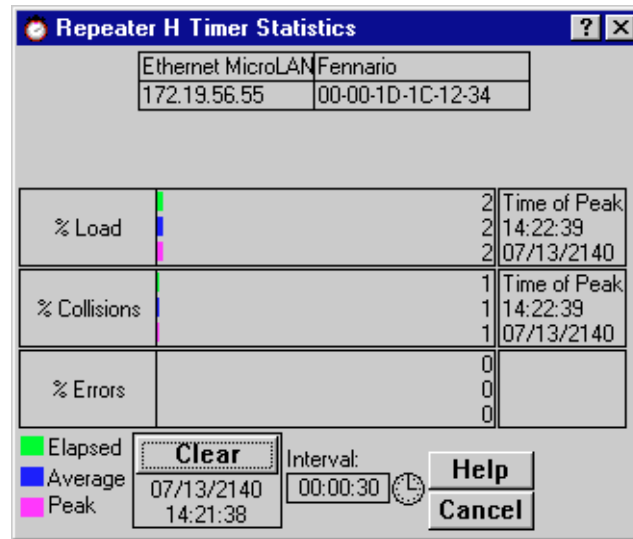

Figure 5-2. The Repeater Timer Statistics Window
3. Click on **T**imer **S**tatistics. The Repeater Timer Statistics window, Figure 5-2, opens.
The Board and Port Timer Statistics windows are similar to the Repeater Timer Statistics window displayed in Figure 5-2, except that they display statistics applicable to the board or the port.